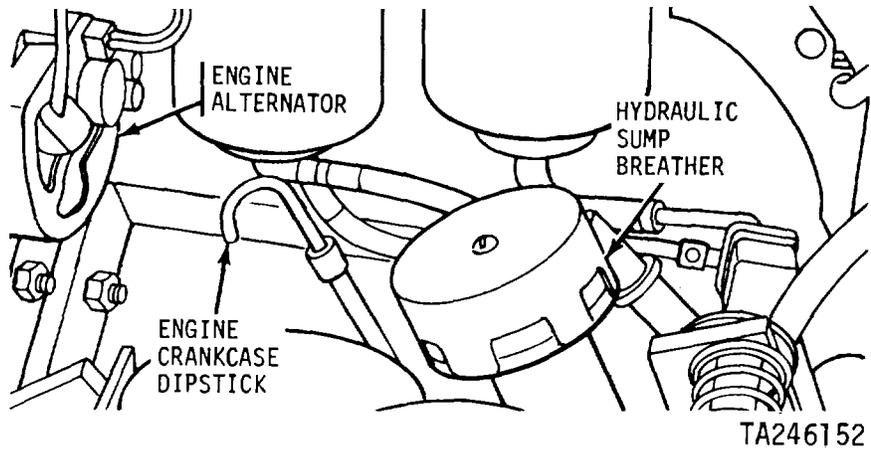

Figure 3-1. Engine Crankcase Dipstick Location
(1) To check the engine oil level, unlatch and swing out the right engine side panel and swing out the battery tray. Use the dipstick (fig. 3-1) to check the engine oil level. To add oil, remove the engine oil filler cap and pour oil as required into the filler opening. Check oil level frequently, since oil consumption may increase.
(2) The oil may require changing more frequently than usual because of contamination by dilution and increased sludge formation under cold weather operation conditions.